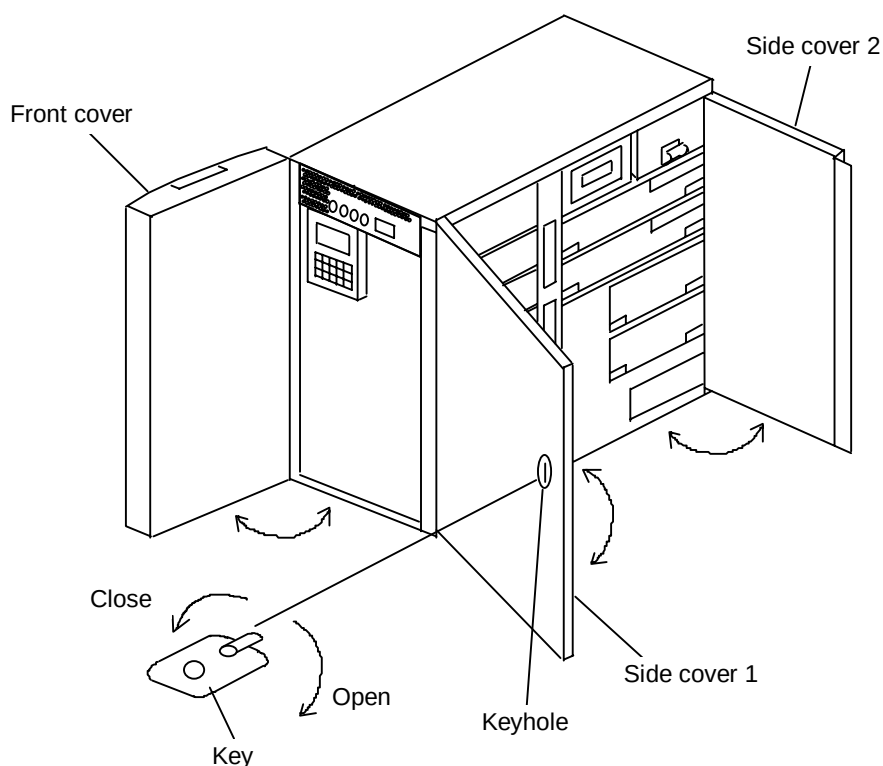

Figure 3.1 Opening/Closing Front and Side Covers
(1) Opening/Closing the front cover (See Figure 3.1.)
- ① Pull the right side of the front cover to your side to open it.
- ② Push it back slowly to close it.
(2) Opening/Closing the side covers (See Figure 3.1.)
- ① Insert the key attached to the subsystem into the keyhole and turn it clockwise. Then, open the side cover 1 gently, and then open the side cover 2.
- ② Gently close the side cover 2 first, and then close the side cover 1. Then, turn the key counterclockwise.